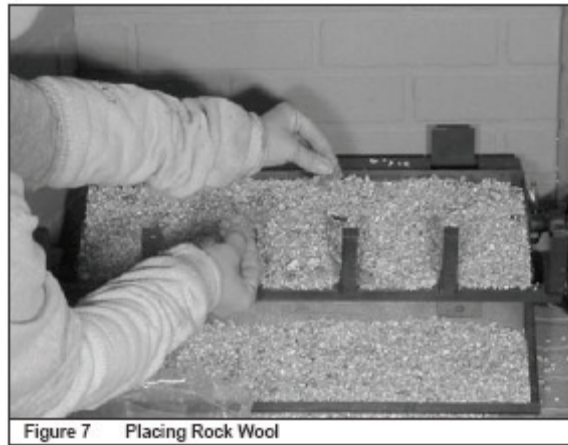

Figure 7 Placing Rock Wool
- Lightly place dime-size pieces of rock wool evenly on top of the sand and vermiculite to achieve a glowing ember effect. See Figure 7.
- Lightly place dime size pieces of rock wool evenly on top of the vermiculite to achieve a glowing ember effect. See Figure 7.